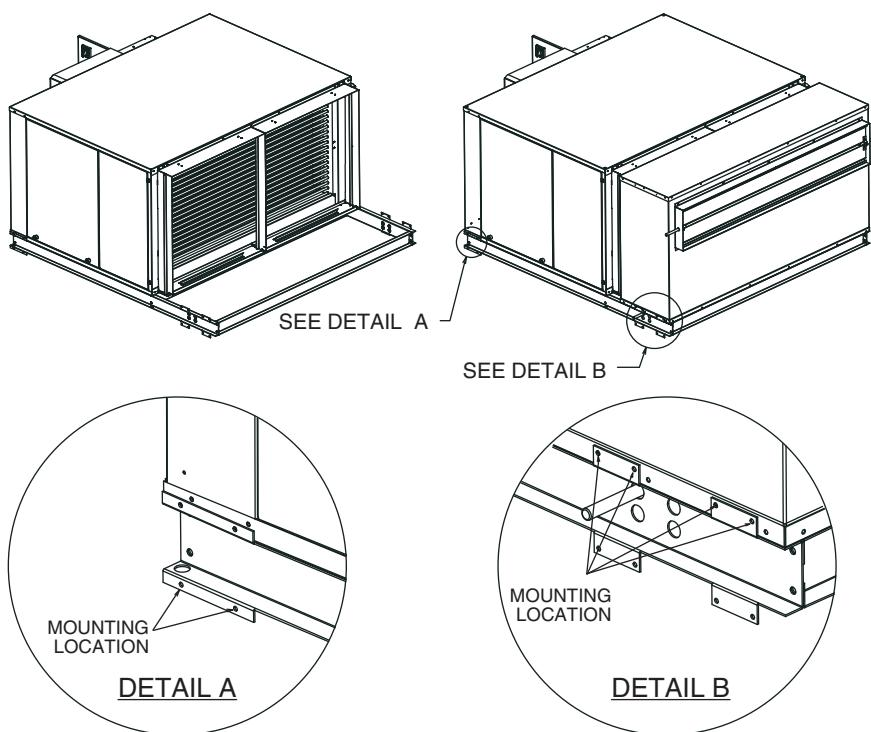

Fig. 16 — Install Mixing Box - 42BHE Units
2. Place unit on the base rails. Install mixing box and attach to base rails using the no. 8 x 1/2 in. fasteners at the locations shown in Fig. 16 (42BHE units) or Fig. 17 (42BVE